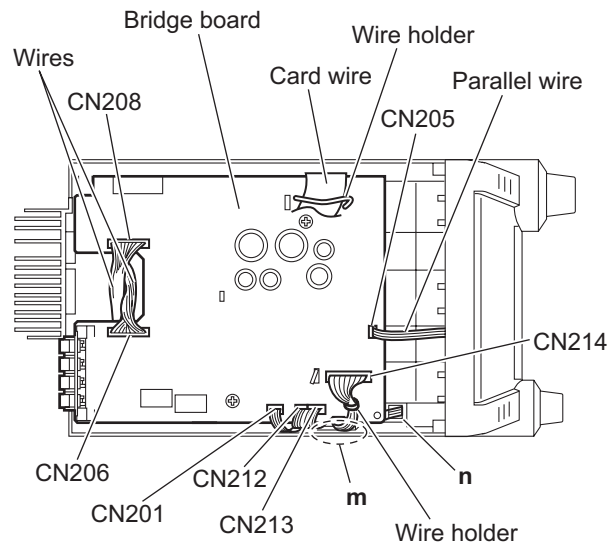

Fig.19
### 3.1.10 Removing the bridge board (See Figs.19 and 20)
- (1) From the top side of the main body, release the wire holder bundling the wire. (See Fig.19.)
- (2) Disconnect the wires from the connectors (CN206, CN208, CN214) on the bridge board. (See Fig.19.)
After connecting the wire to the connector CN214, fix the wire with the wire holder. (See Fig.19.)
- (3) Disconnect the parallel wires from the connectors (CN201, CN205, CN212, CN213) on the bridge board. (See Fig.19.)
- (4) Release the wire holder holding the card wire. (See Fig.19.)
- When reassembling, pass the wires through the sections (**m**, **n**) of the plastics chassis. (See Fig.19.)
### 3.1.12 Removing the primary board (See Figs.19, 21, 22, 24 and 25)
- (3) Disconnect the parallel wires from the connectors (CN201, CN205, CN213) on the bridge board. (See Fig.19.)